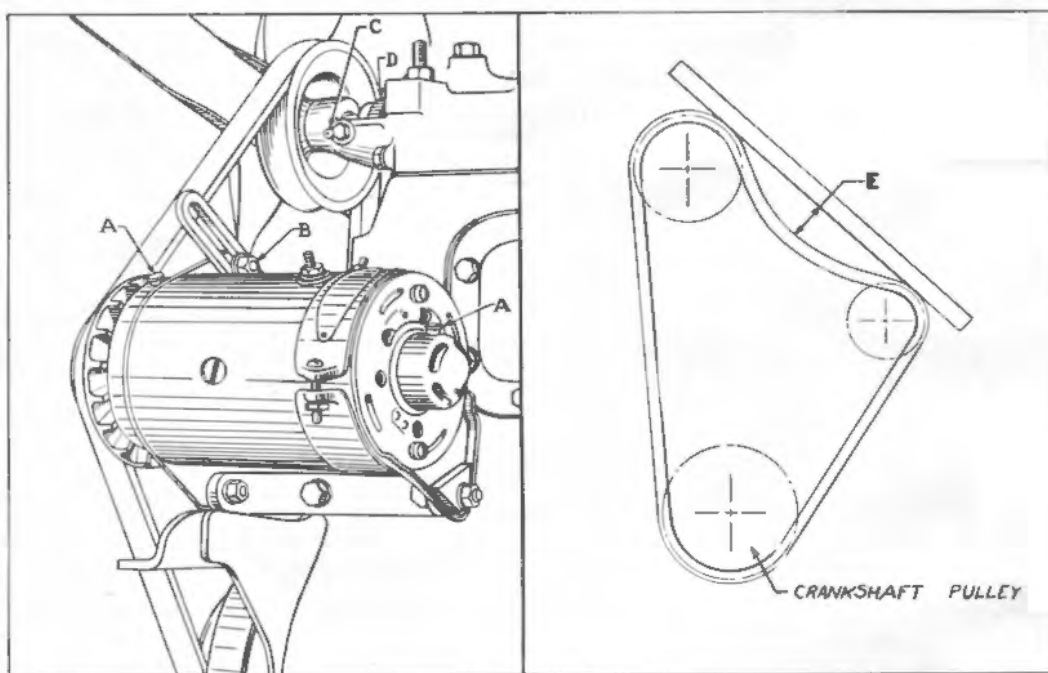

Figure 6
A few drops of light oil should be supplied to cups (A), Figure 6, every 1,000 miles—do not over-lubricate.
The generator is driven by the "V" type belt, which also drives the fan and water pump. This belt must be kept sufficiently tight to prevent slippage on the pulleys. When properly adjusted the belt will have from $1\frac{1}{4}$ " to $1\frac{3}{4}$ " of slack at a point midway between the fan pulley and generator pulley as shown at (E), Figure 6. This adjustment provides sufficient tight-
The water pump is of the 6-vane type and is mounted in the forward end of the cylinder head. The roller bearing at the forward end of the pump shaft should be lubricated at 1,000-mile intervals through the pressure fitting shown at (C), Figure 6, using a high-grade water pump grease.